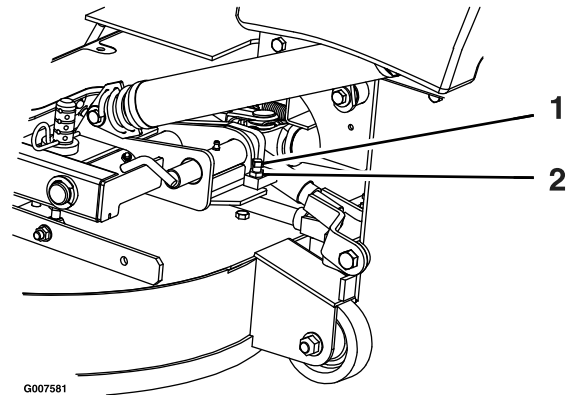

Figure 71
2. Loosen the jam nut and turn the stop screw clockwise until the locking pin is tight and cannot be rotated by hand (Figure 71).